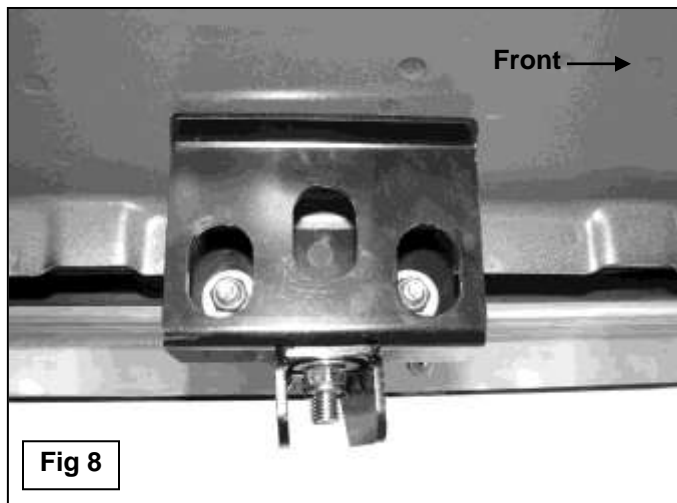

**Fig 6**
6. **IMPORTANT:** Select a location for the center Bracket along the pinch weld, mid way between the front and rear Brackets where the seam is as flat as possible, **(Figure 6)**. Do not install the Bracket over any of the drip channels in the pinch weld. Once an appropriate location has been found, slide the outer Clamp Plate and Bracket over the pinch weld with the back part of the Bracket tight against the floor panel, **(Figure 7)**. Tighten the (2) 10mm Lock Nuts to tighten the Clamp on the pinch weld, **(Figure 8)**. Do not fully tighten at this time.